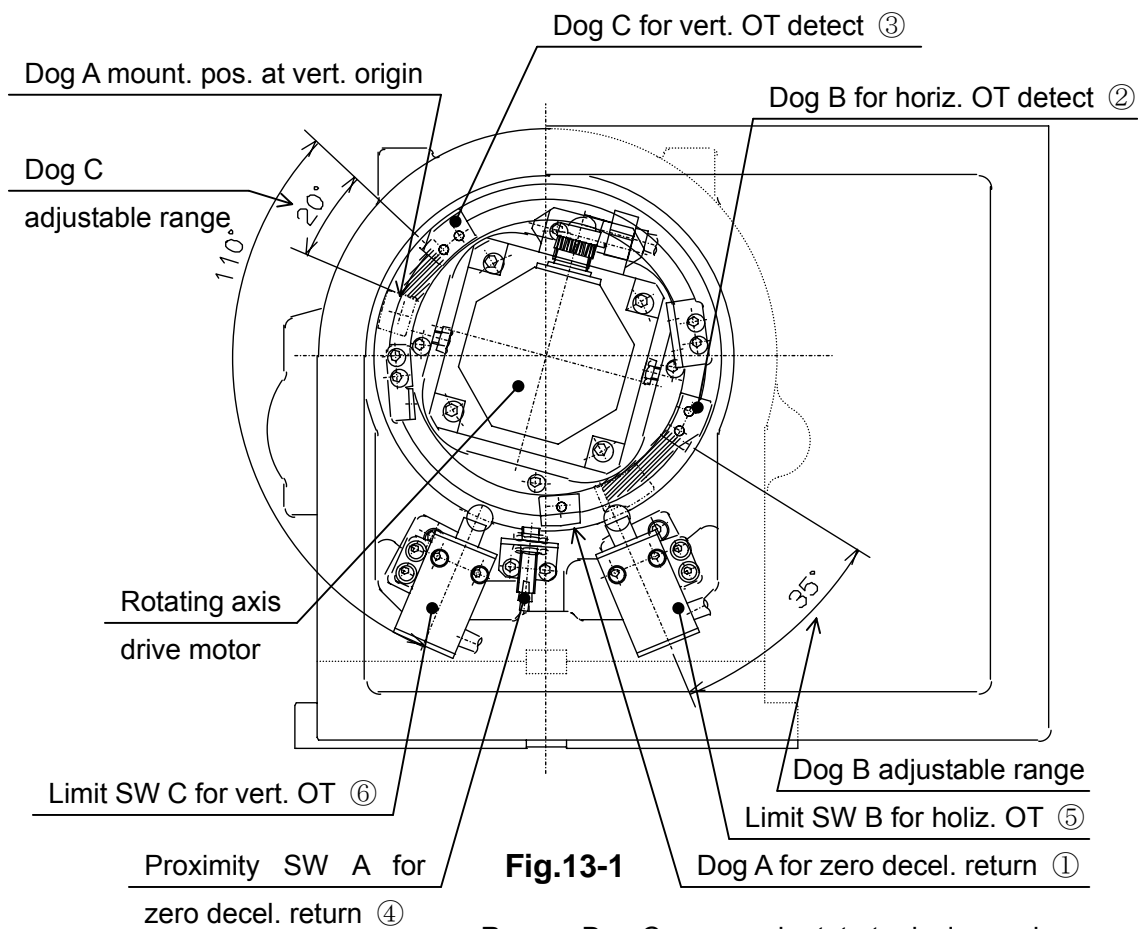
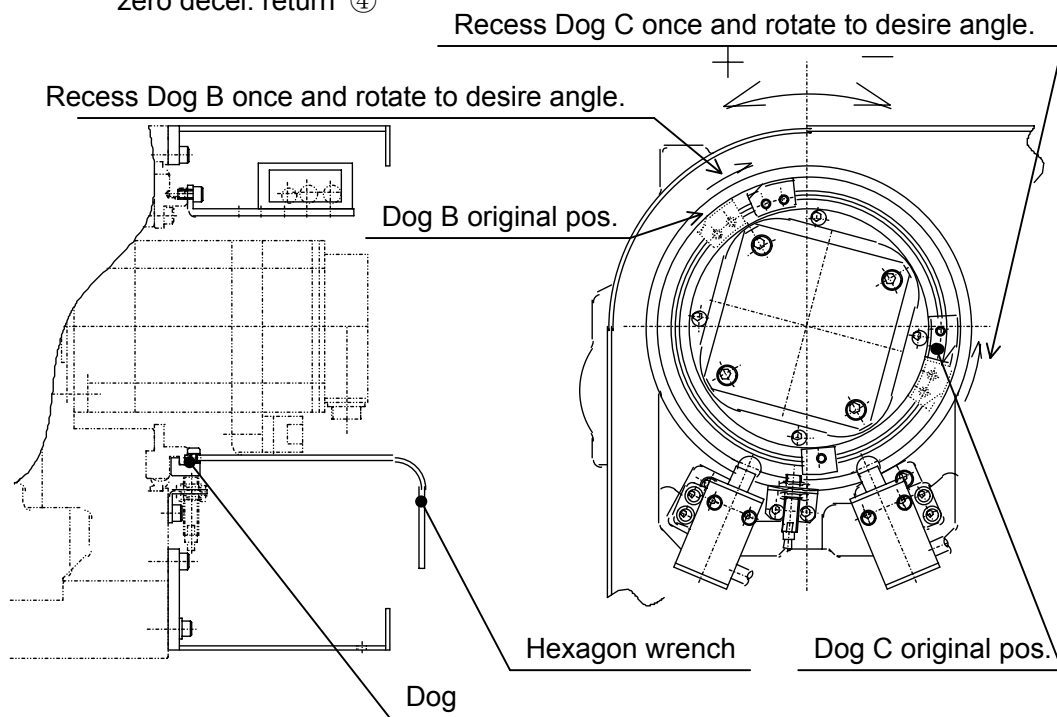

Fig.13-1
Fig.13-2
13-2. Tilting axis ZRN device (See Fig.13-1)
- 2) In the standard specification, the horizontal table face position is regarded as an origin. The proximity switch A ④ detects dog A ①.
- 3) When the vertical table face position is regarded as an origin, dog A ① must be changed to “Dog A mounting position at vertical origin”.
14. Tilting Axis Over Travel Stop Device (See Fig.13-1, Fig.13-2)